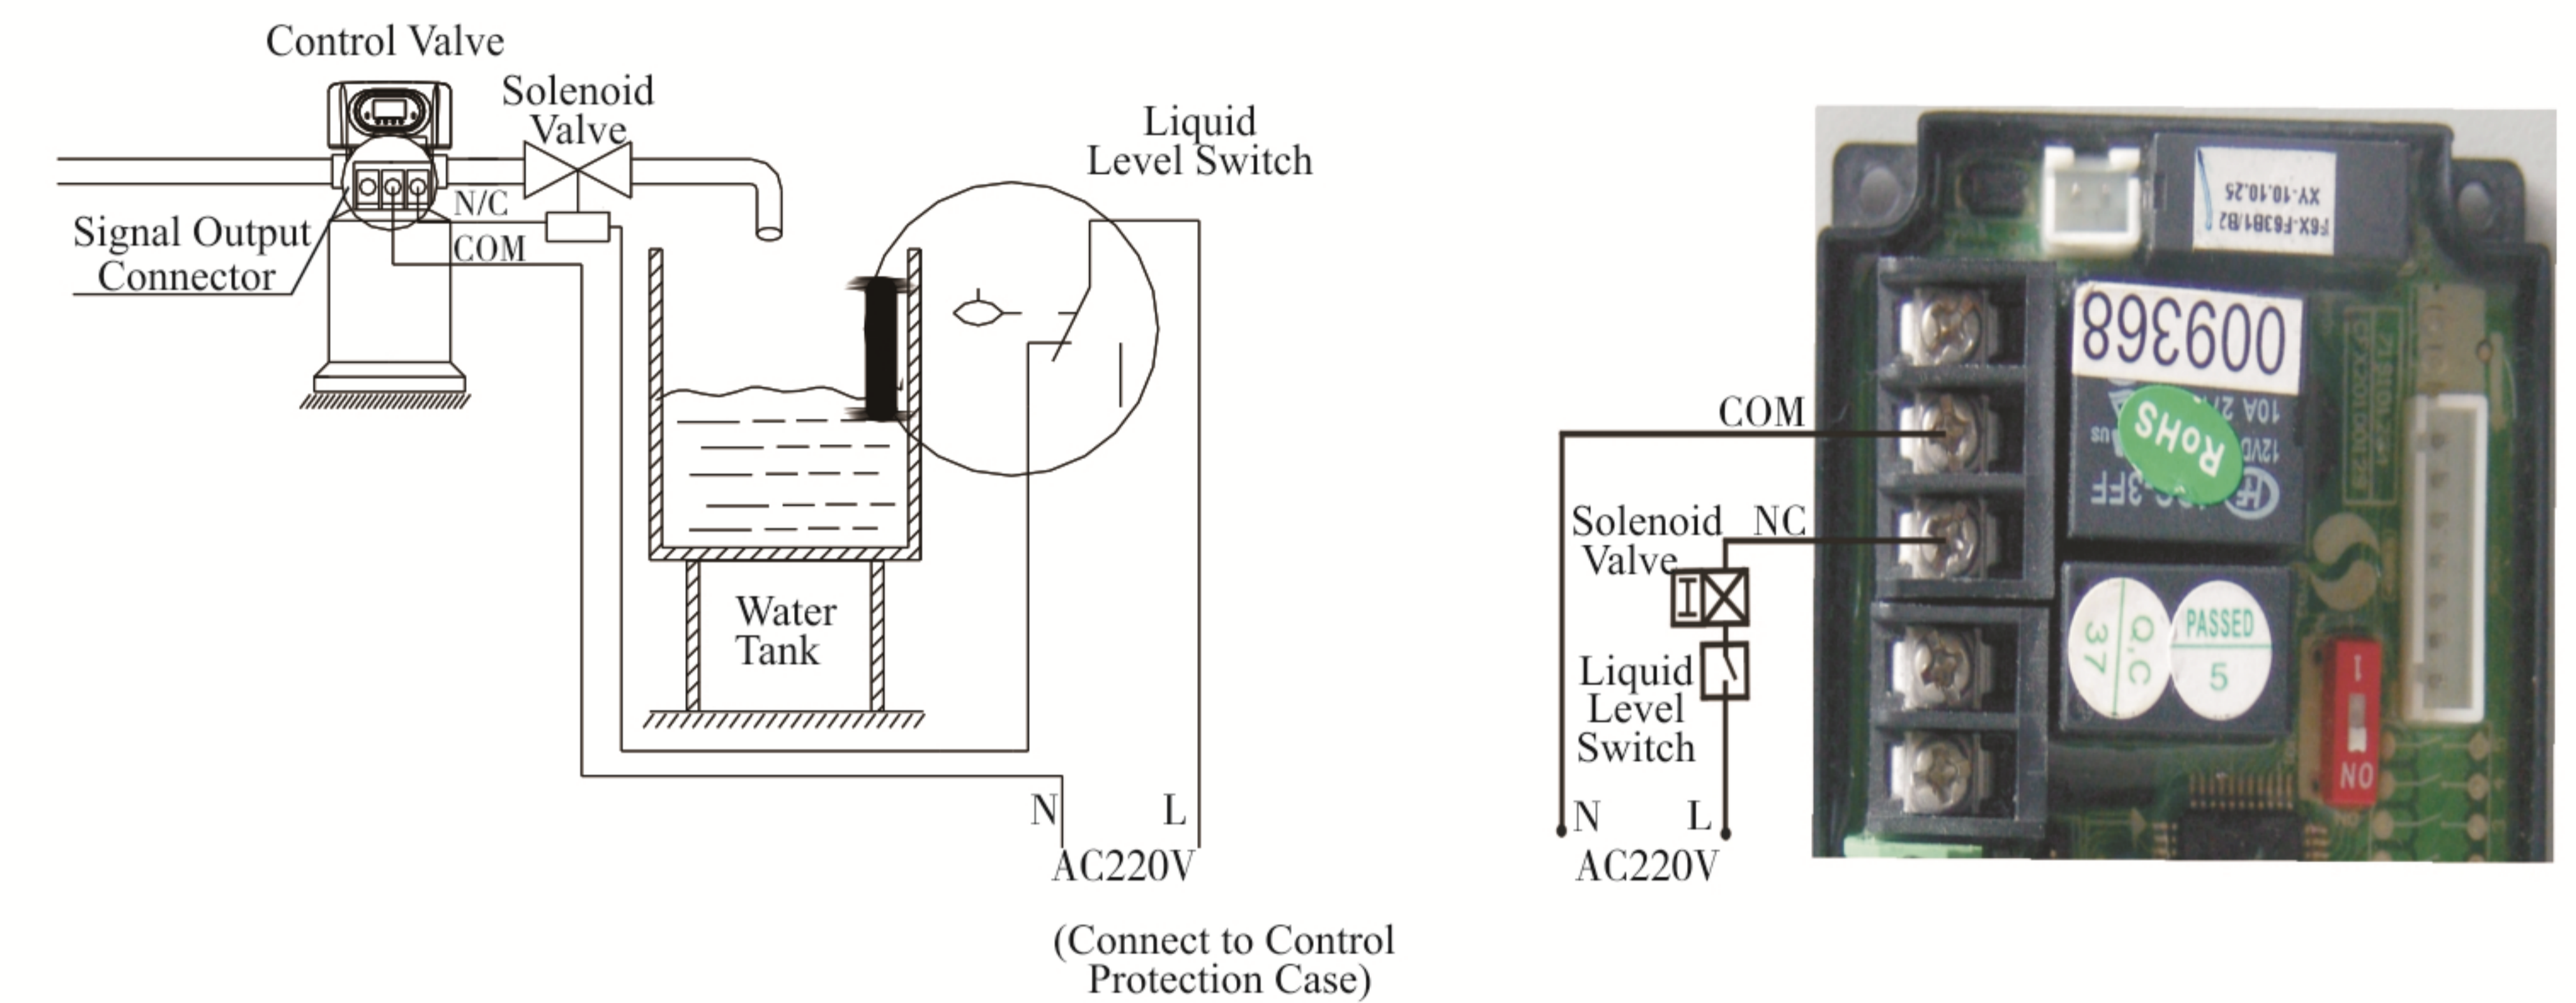

Figure3-2 Wring of Solenoid Valve on Outlet
① Solenoid valve on outlet controls water level in water tank.
**Instruction:** If system strictly requires no hard water flowing from outlet in regeneration cycle( mainly for no hard water flow out when valve is switching or valve in backwash or brine drawing positions), a solenoid valve could be installed on outlet, the wiring refer to Figure 3-2.